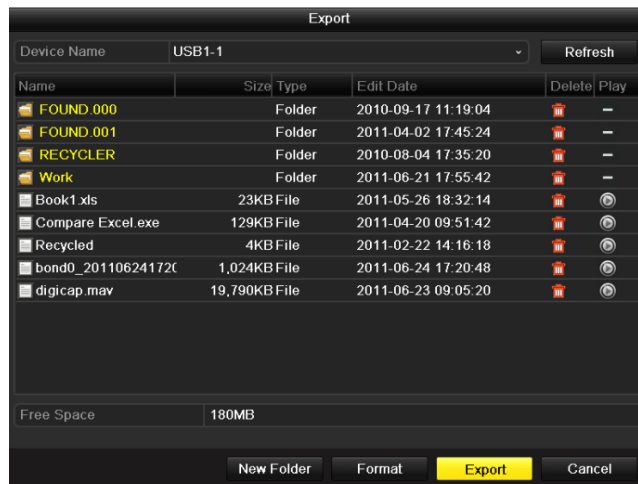

Figure 12.10 Export Log Files
6. If you want to export the log files, click the **Export** button to enter the Export menu, as shown in Figure 12.10.